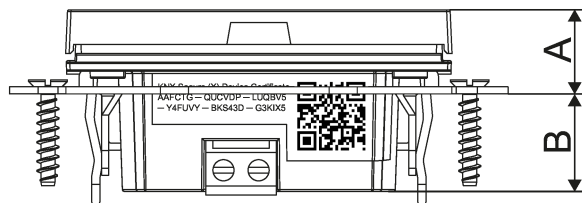

Figure 11: Installation dimensions
**Installation dimensions (see figure 11)**